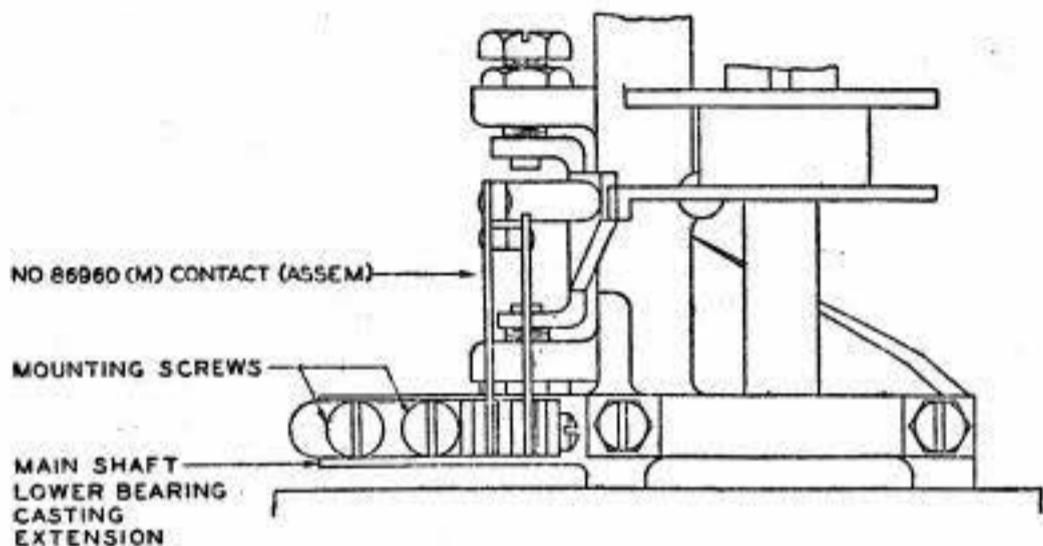

FIG. 1
2.02 Mount the 86960(M) contact assembly on the main shaft lower bearing casting extension as shown in Fig. 1. (Using the mounting screws included in the set of parts.)
Figs. 1 and 2